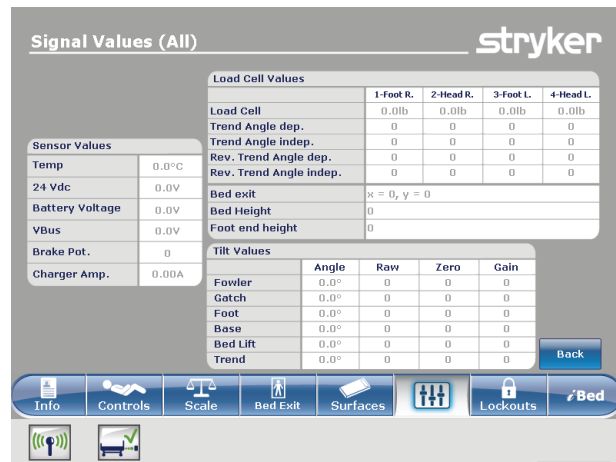

Figure 61: Signal Values
**Signal Values:** Lists all the sensors and their current signal values (Figure 61 on page 74).